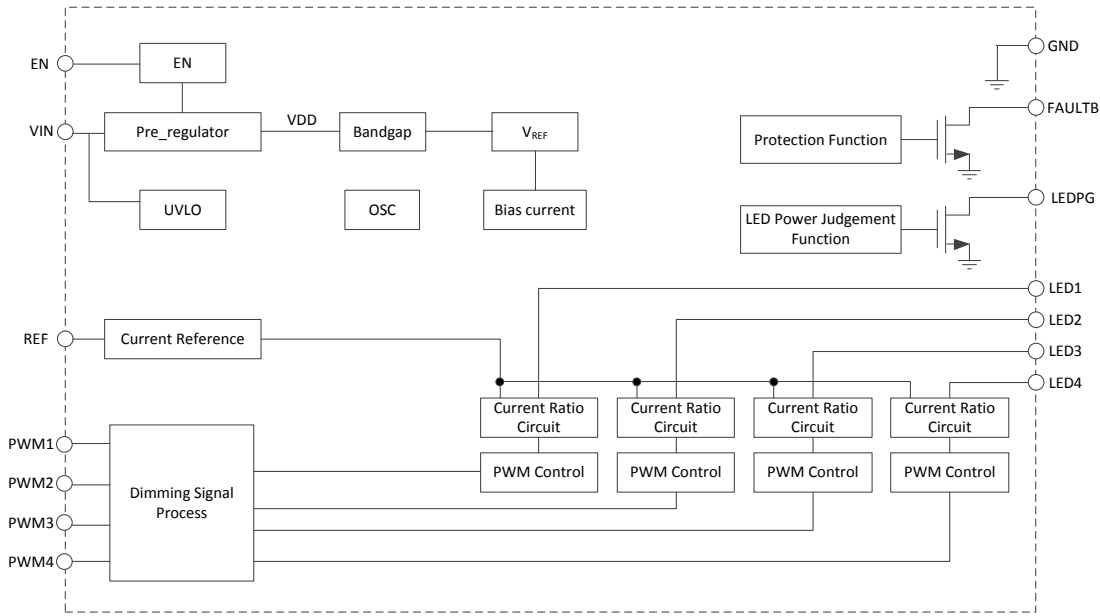

Figure 5. Functional Block Diagram of AL1792/1793/1794 (Note 4)
- 4-Channel White with Tunable Color (Figure 5) Main White Light with Tunable RGB